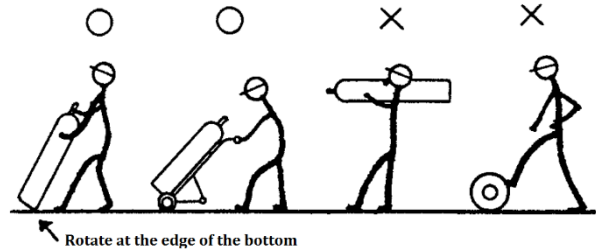

Figure 33. Good and Bad Examples of Carrying the Container
- 4) When moving the cylinder by hand, clean the area, and make sure that the cylinder body does not touch the ground. Whenever possible, use the cylinder carrier, but when it is not available, roll with the edge of the bottom and do not carry on your shoulder or kick. Do not drag it with the high pressure valve (Figure 33).